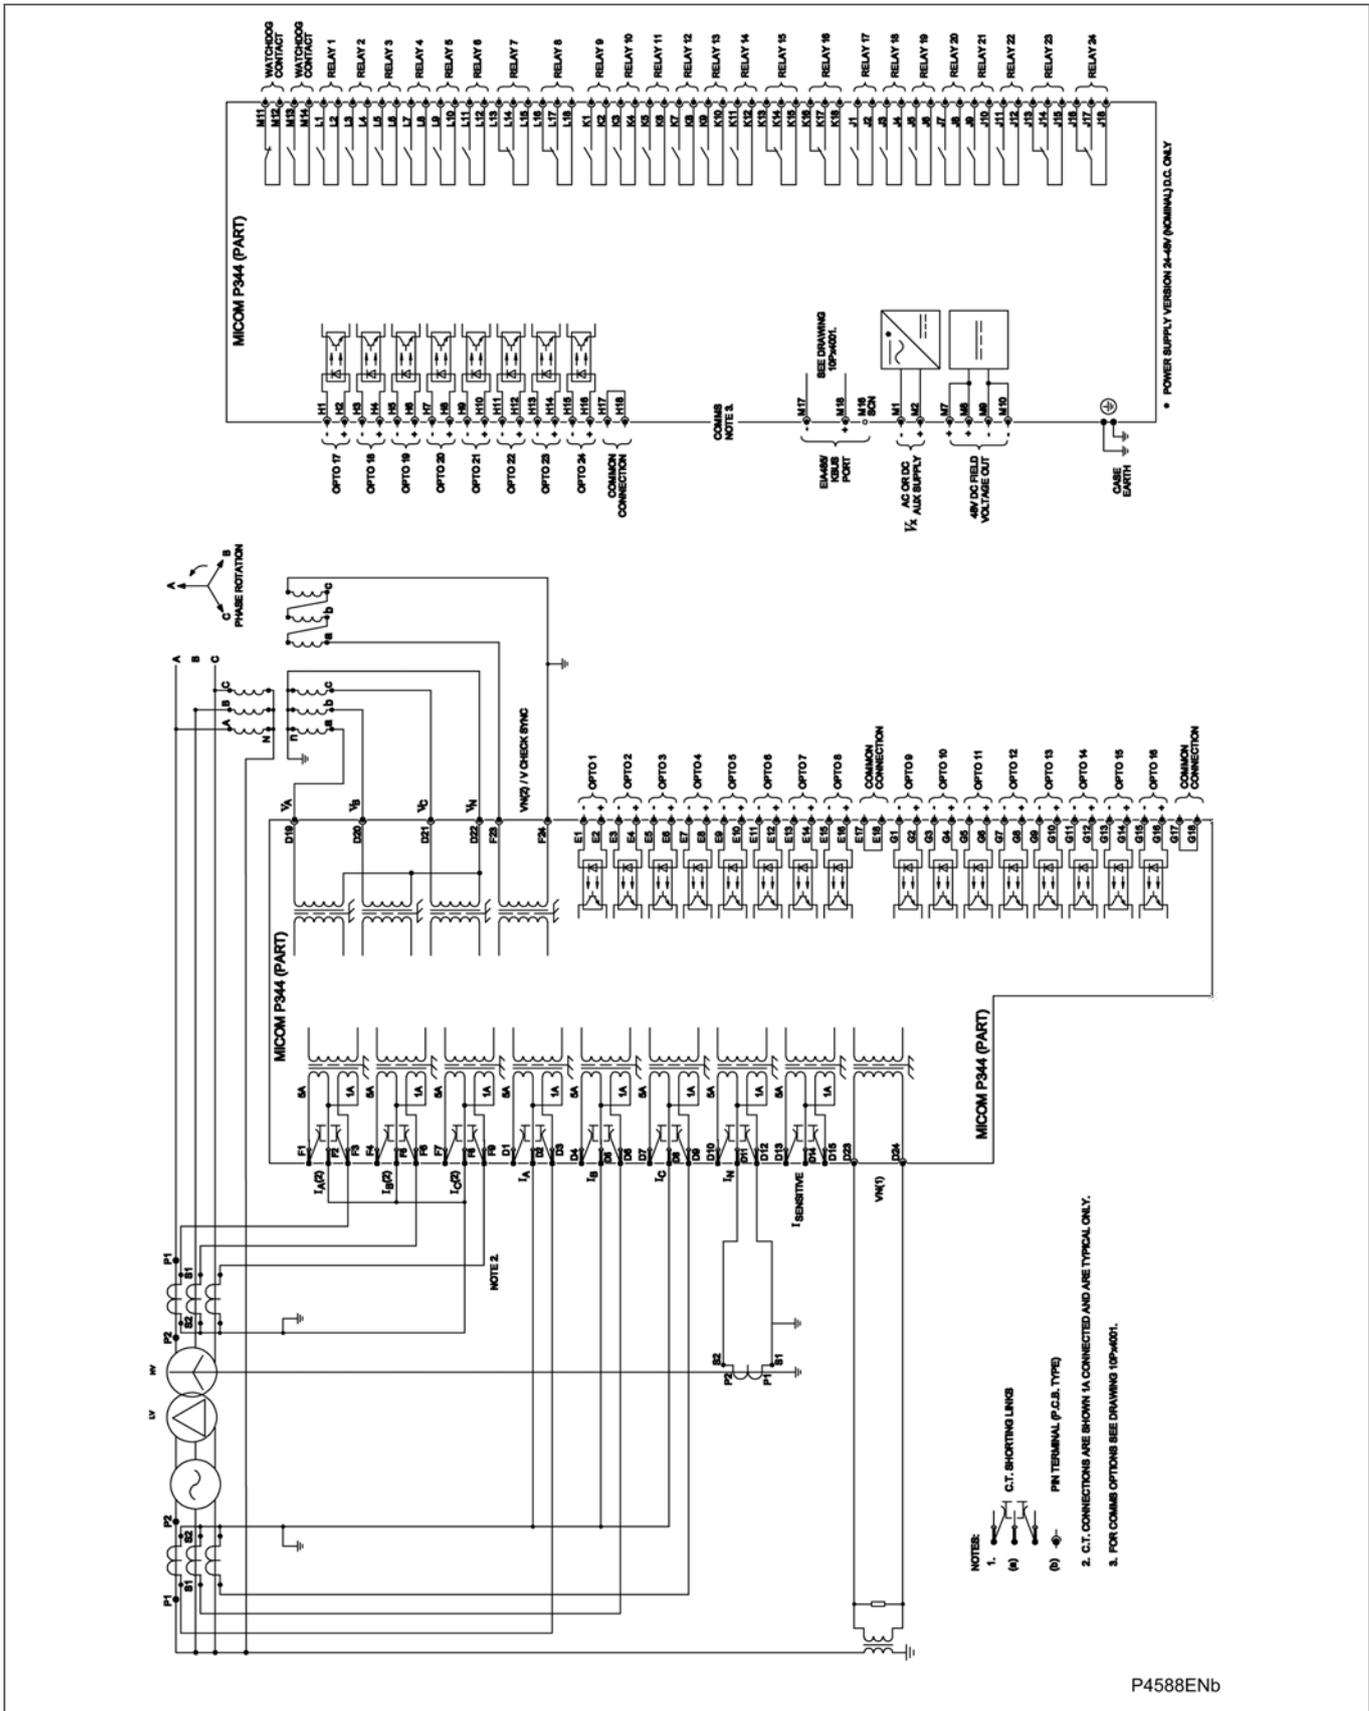

Figure 71 - P344 (60TE) for biased generator-transformer differential (24 I/P & 24 O/P)
- Figure 71 - P344 (60TE) for biased generator-transformer differential (24 I/P & 24 O/P)